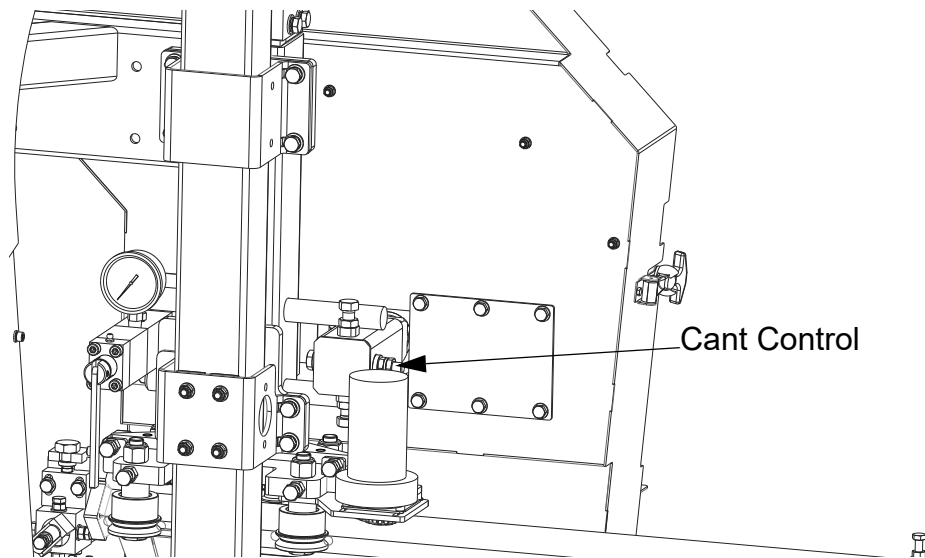

FIG. 5-8
**See Figure 5-8.** Use the cant control adjustment to adjust the idle-side blade wheel. If the blade is too far forward on the wheel, turn the cant control counterclockwise. If it is too far back on the wheel, turn the cant control clockwise.